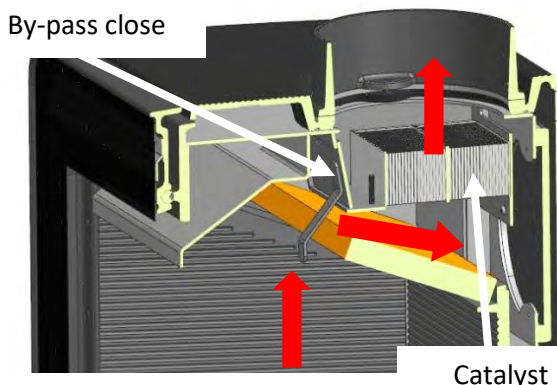

Fig. 21
5. When the fire is well established, slide the Burn Type Lever to the top for normal operation with wood ("A"). Then adjust the Burn Rate Knob to the desired heat output, either manually or with the remote control. Close the by-pass of the TruHybrid System, to allow the flue gases pass through the catalyst (Fig. 21) to achieve the maximum efficiency of the stove. **Protect your hands for such operation.**